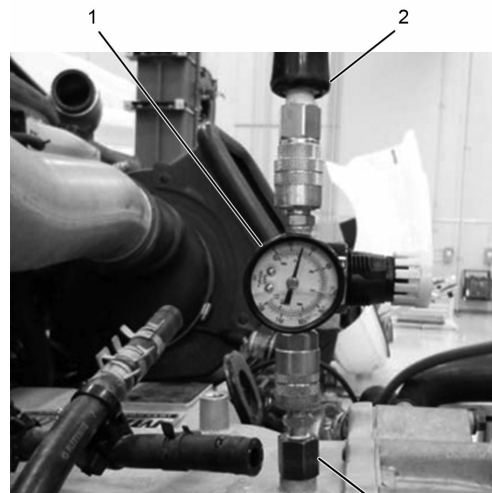

Figure 18
27. Install regulator assembly (Figure 18, Item 1) into EGR cooler plug - air inlet (Figure 18, Item 3) and attach shop air hose (Figure 18, Item 2) to regulator assembly.